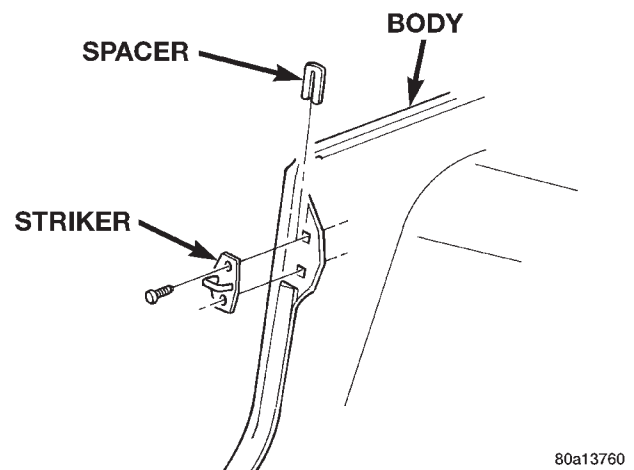

Fig. 38 Latch Striker
- (1) Remove the screws attaching the striker to the body.
- (2) Separate the striker and the spacer from the body (Fig. 38).